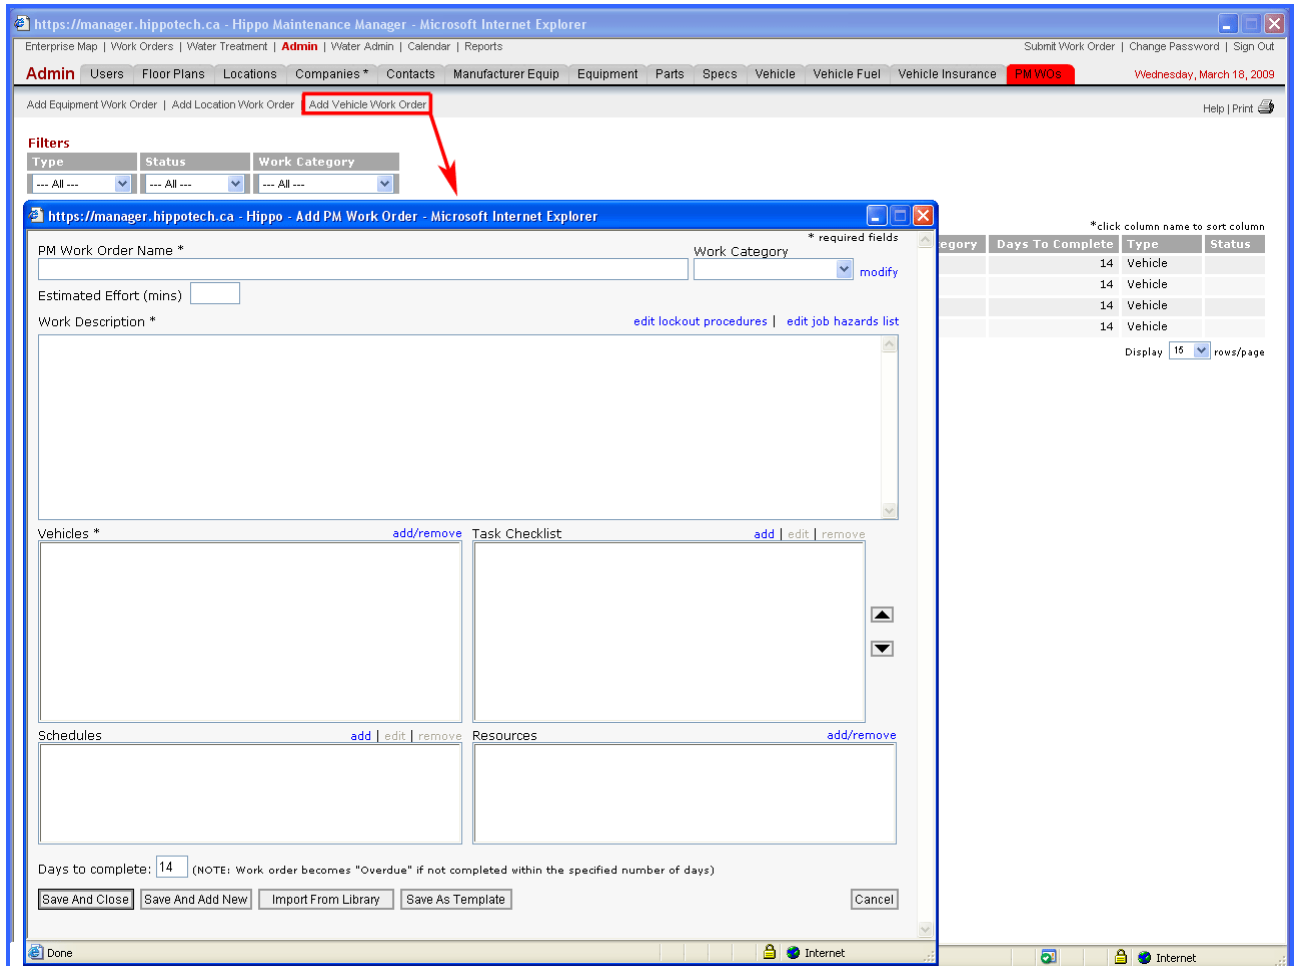

Figure 56: Add Vehicle PM
2. Click **Add Vehicle Work Order** sub-menu item to display the Add Vehicle Work Order window (See Figure 56).